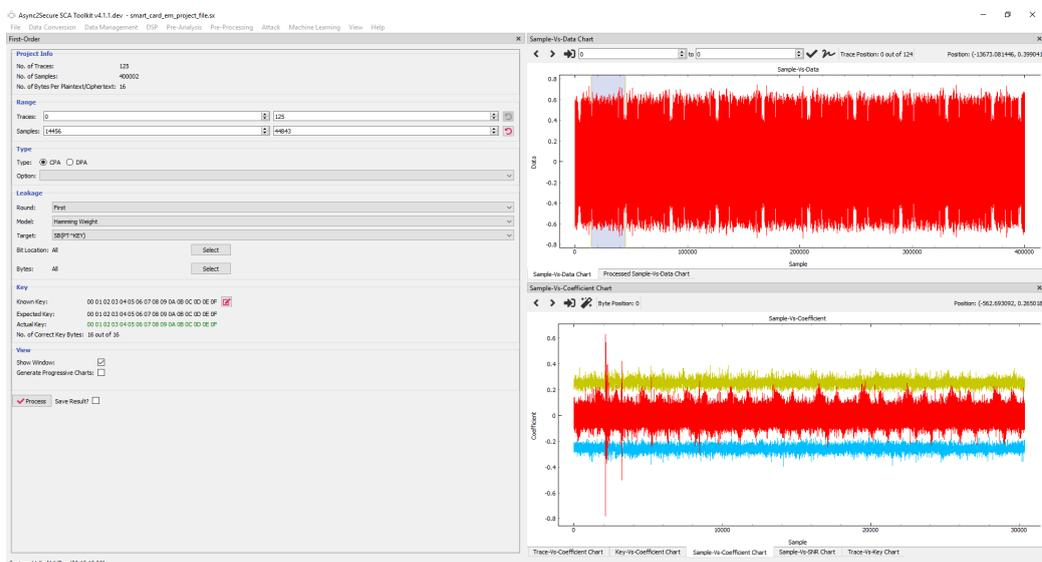

Figure 15: Attacking and analysing the collected traces
- Once the project file is loaded, go to 'Attack' > 'First-Order' from the menu. The "First-Order" window is displayed as shown in Figure 15.
5. Analysis Phase – to check whether the key can be retrieved successfully or not, as shown in Figure 15.